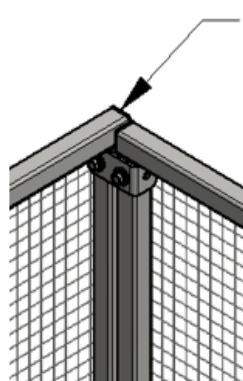

Figure 2
- Install (2) Mounting Clips to each of the Gate Guard side panels just inside the top and bottom tube using supplied self-drilling Tek screws as shown in **FIGURES 2 and 3**.
- Align Gate Guard End Cap and Side Panel flush as shown in **FIGURES 2 and 3**.